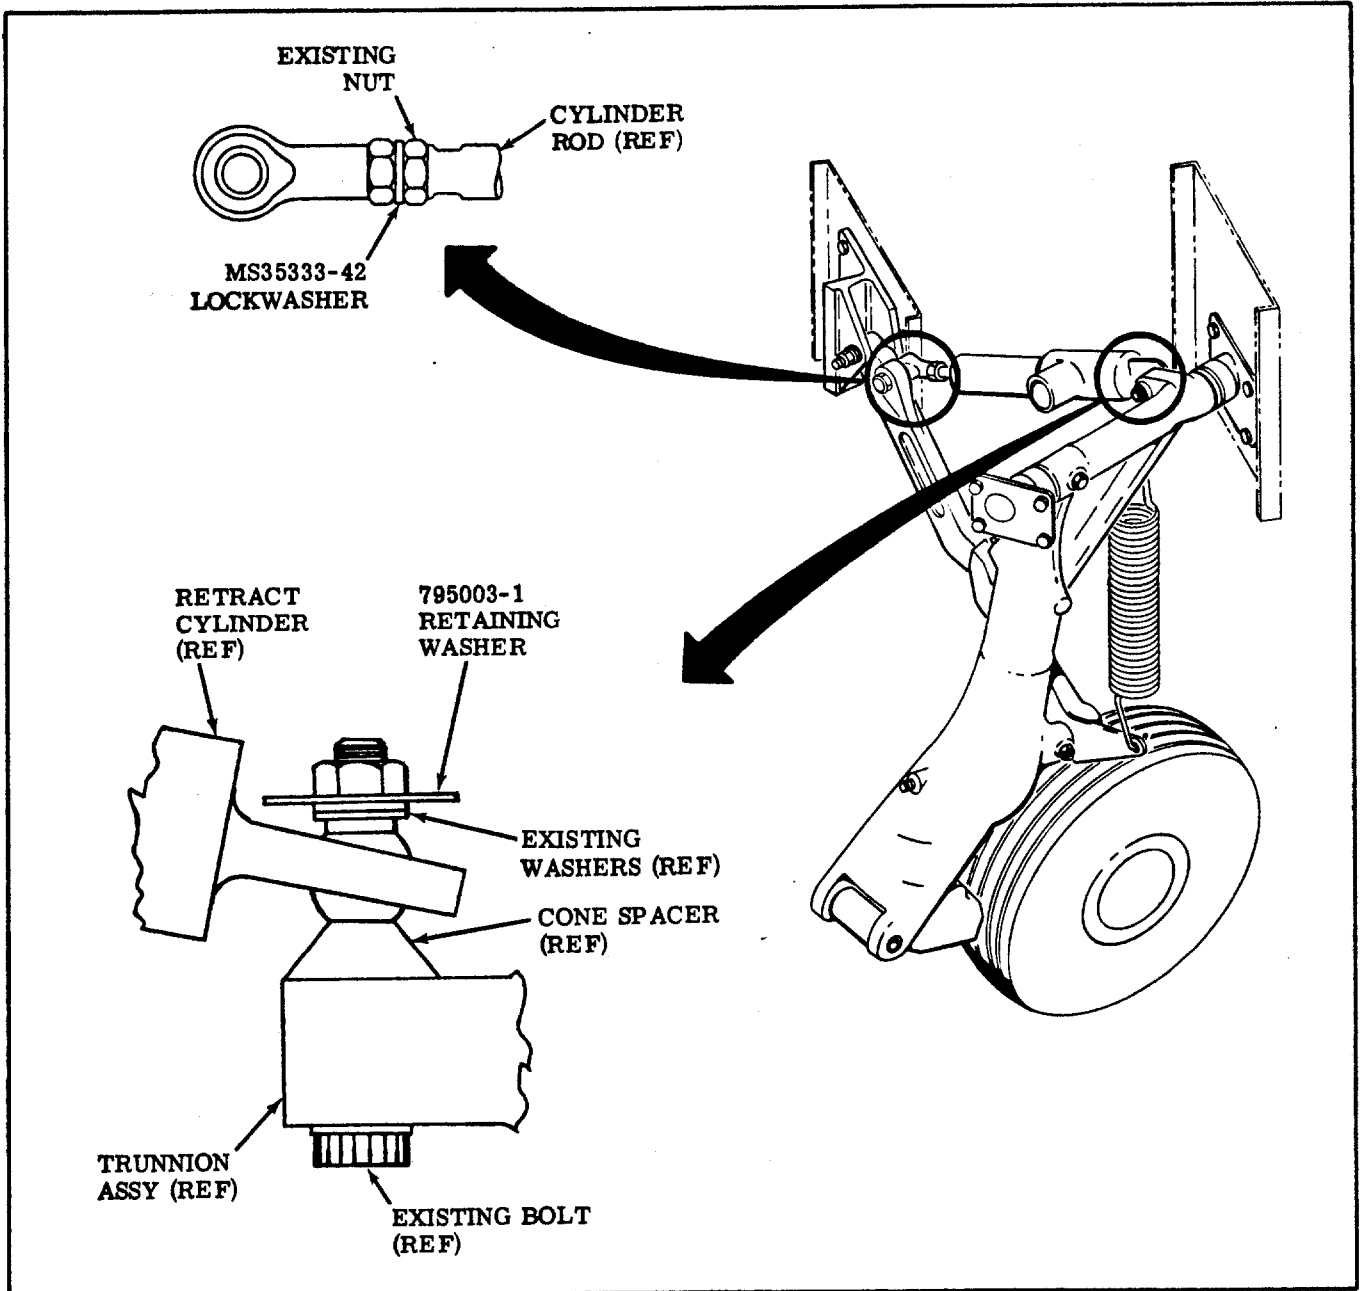

Figure 2.
11. Install MS35333-42 lockwasher and existing rod end on left and right main landing gear retract cylinder (see Figure 2.).
- e. Reconnect the left and right main landing gear retract cylinders to lug on the landing gear trunnions with existing hardware and add 795003-1 retainer washer (see Figure 2.).